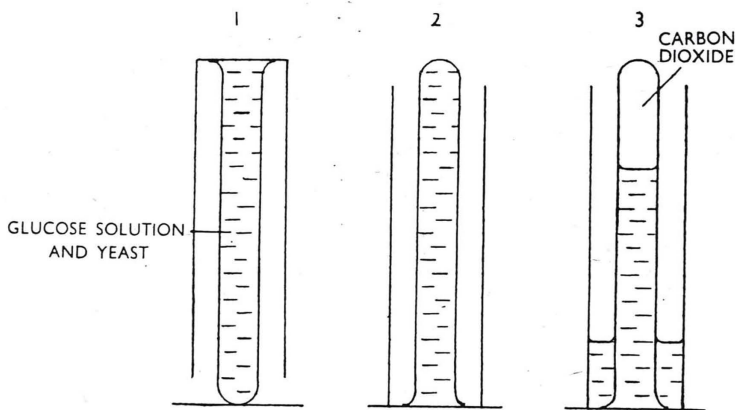

FIG. 46. FERMENTATION OF GLUCOSE
with the mixture and carefully push this tube up into an inverted 6-in. by 1-in. flat-bottomed tube (a specimen-tube) until the flat bottom of this tube closes the mouth of the test-tube, as shown in Fig. 46 (1). The apparatus can then be inverted without any solution escaping from the test-tube or any air entering (Fig. 46 (2)). (A small air-bubble, however, may be neglected.) The apparatus is then put in the 37° C. water-bath and, after a time, bubbles of gas begin to rise to the top of the test-tube, displacing the liquid into the outer tube (Fig. 46 (3)). After about half an hour the test-tube becomes full of gas. When this stage is reached, remove the apparatus from the water-bath, and, keeping the mouth of the test-tube closed by the bottom of the specimen-tube, pour off the displaced liquid into another test-tube and set aside to test for alcohol later. Into the outer specimen-tube, pour about 15 c.cm. of sodium hydroxide solution (2N) and then rock the inner tube gently. Notice that the alkali rises inside the test-tube as the carbon dioxide is absorbed, and continues rising until it fills the test-tube, showing that the tube was full of carbon dioxide.